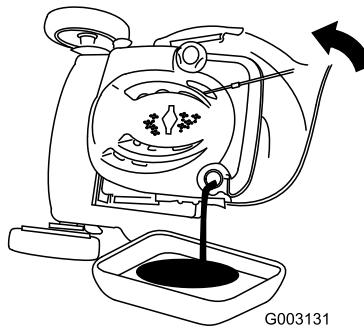

Figure 47
3. Tip the mower onto its side, with the air filter up, to drain the used oil out through the oil fill tube (Figure 47).